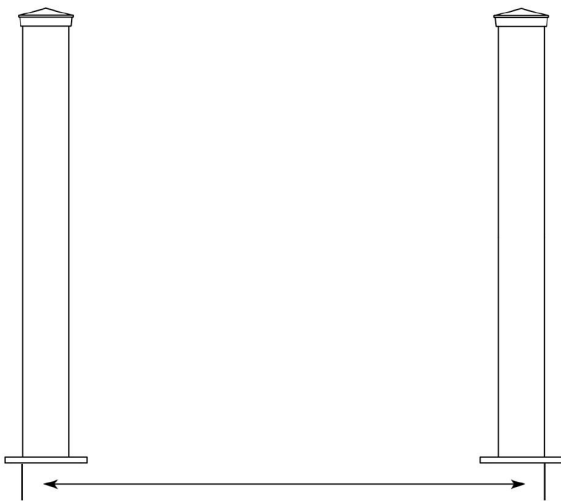

Figure 1
- 2. The maximum distance between posts is 1,800mm, measured from one end of the post as indicated in Figure 1 to the opposite end.